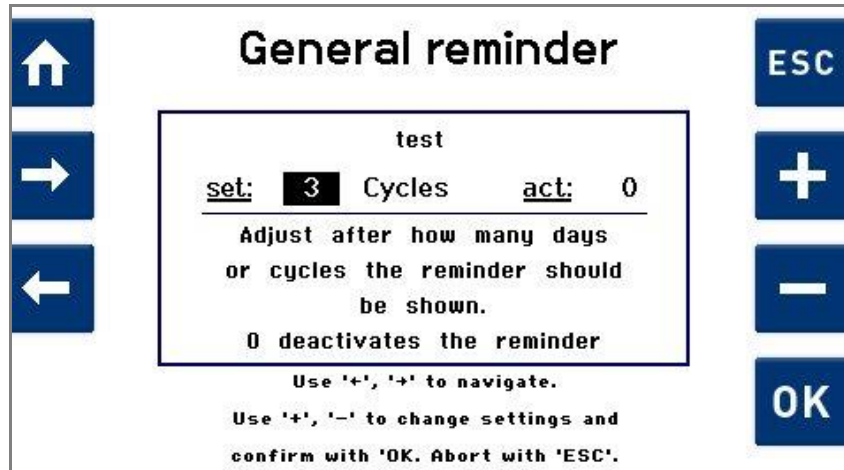

Fig. 7.1.6.10 Display for setting reminder interval
7. Using **←** / **→**, select between the input value and the unit *Cycles / Days* (see Fig. 7.1.6.10).